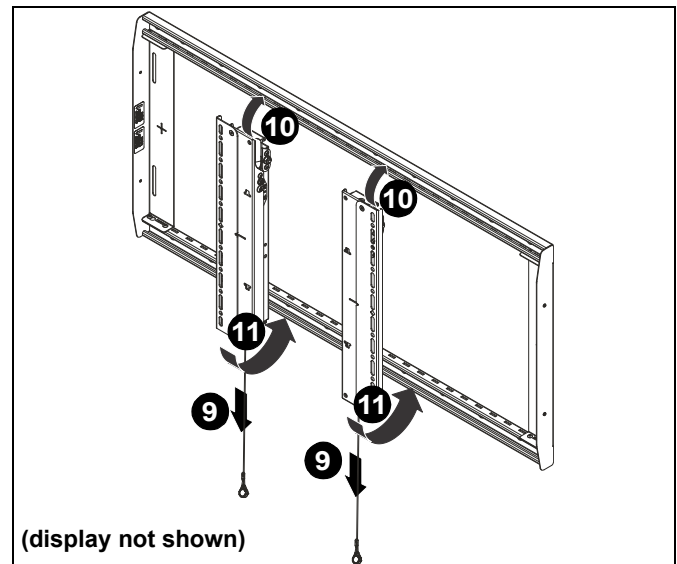

Figure 26
- Lower home latch release cords on each interface bracket (A and B). (See Figure 26)
- Raise display with attached interface brackets and hook top of brackets into top of mount. (See Figure 26)
- Slide interface rail hooks under lower rail. (See Figure 26)